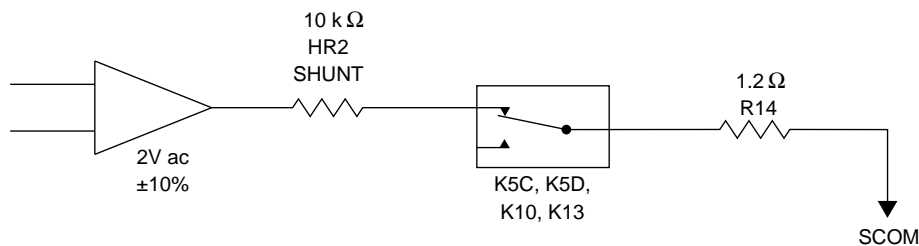

Figure 5-8. Verifying the 220 μA Range of the 220 $\mu\text{A}/2.2 \text{ mA}$ Amp Circuit
- Check the 220 μA range of the 220 $\mu\text{A}/2.2 \text{ mA}$ AMP circuit. Set the 5700A to 200 μA , standby. Set the external ac reference to 6.4V($\pm 0.1\text{V}$) at 1 kHz. Using a DMM, measure the ac voltage at the collector of Q4 and verify it is 2.0V ac $\pm 10\%$. If a failure is detected, first verify that the 10 k Ω shunt on HR2 is correct and that it is connected to SCOM through relays K5C, K5D, K10, K13 and the 1.2 Ω load resistor R14 as in Figure 5-8. If the shunt and output switching is correct check Q4, Q5, K3, and the associated components in the 220 $\mu\text{A}/2.2 \text{ mA}$ AMP circuit.